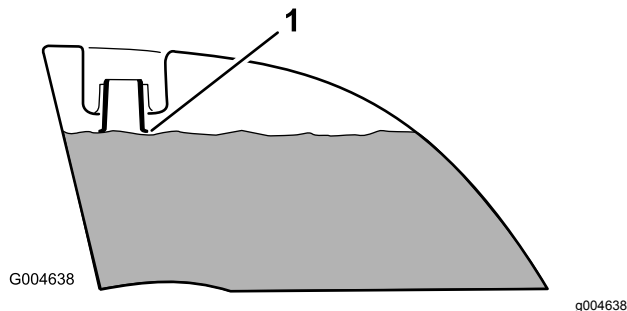

Figure 11
4. Add fuel to both fuel tanks, until the level is even with the bottom of the filler neck (Figure 11). Do not over fill the fuel tanks.